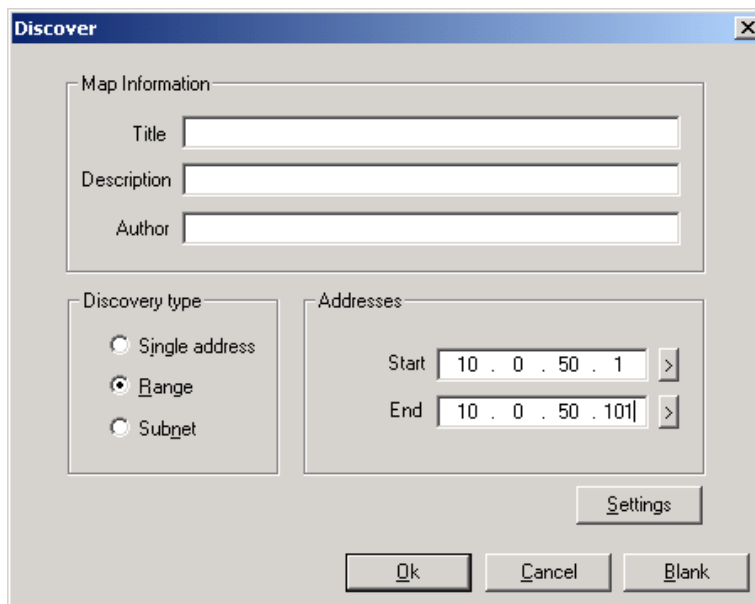

Figure 5.1 IP address searching
1. Click on the  button to open a new file. The following screen shall appear, in the Addresses field, Enter in the IP address range to search (Figure 5.1).